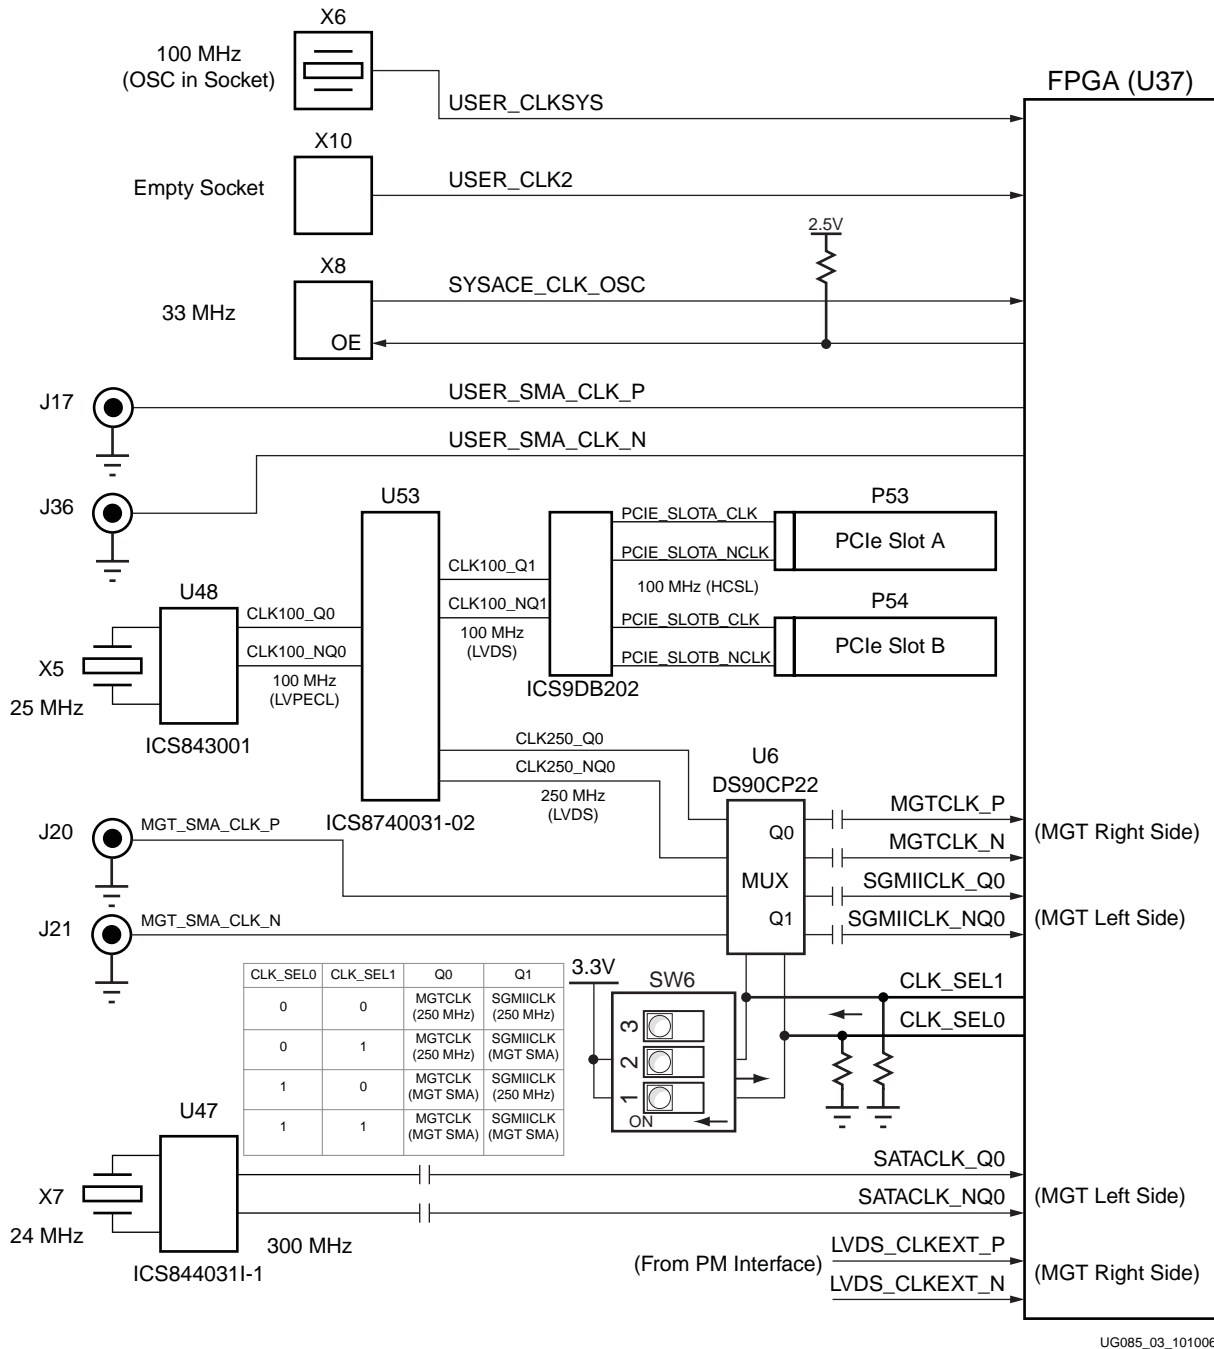

Figure 2-3: ML410 Clock Distribution
Figure 2-3 is an example of the clock distribution for the ML410 board. For clocking on earlier revisions of the ML410 platform, see Appendix A, “Board Revisions.”
2. These clocks are differential pairs through the RocketIO transceivers and are not available on ML410-P boards. See Figure 2-3, page 29.